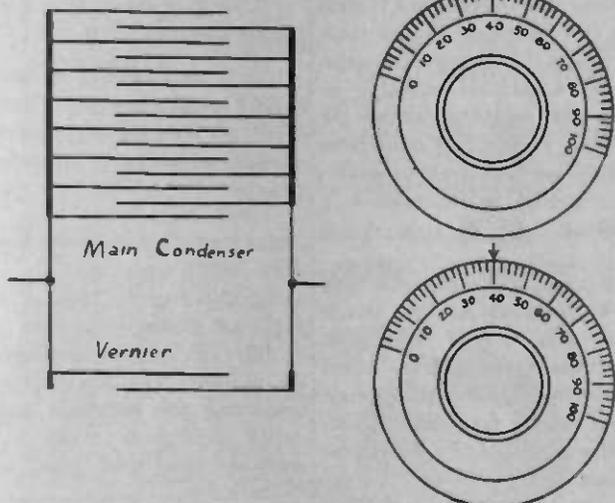

Fig. 1. Vernier Dial is Underneath the Main Condenser Control. Both Are Set at 40.
The idea may be obtained from Fig. 1. This represents the plates of variable condenser which are shown by the dial on the right to be in mesh up to 40. Underneath the main condenser is another one of only two plates, acting as a vernier. Its dial is set at 40, too. Now suppose that the vernier has a ratio of 10 to 1. That means that the value of the lower one (40) divided by the ratio (10) is the equivalent of 4 on the main scale. Adding the reading of 40, we get the total value of capacity of 4 plus 40, or 44. This is the amount of capacity which we find by experiment must be used to tune the wave we are after.